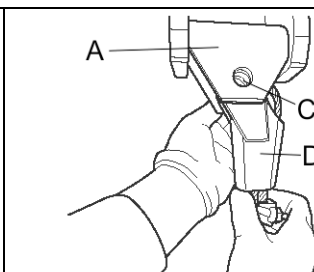

Figure 6-10
- 5) Pull the Rope Anchorage Shaft (C) out of the Rope Anchorage Assembly (A). Then pull the Terminal (D) out of the Rope Anchorage Assembly (A) as shown in **Figure 6-10**.